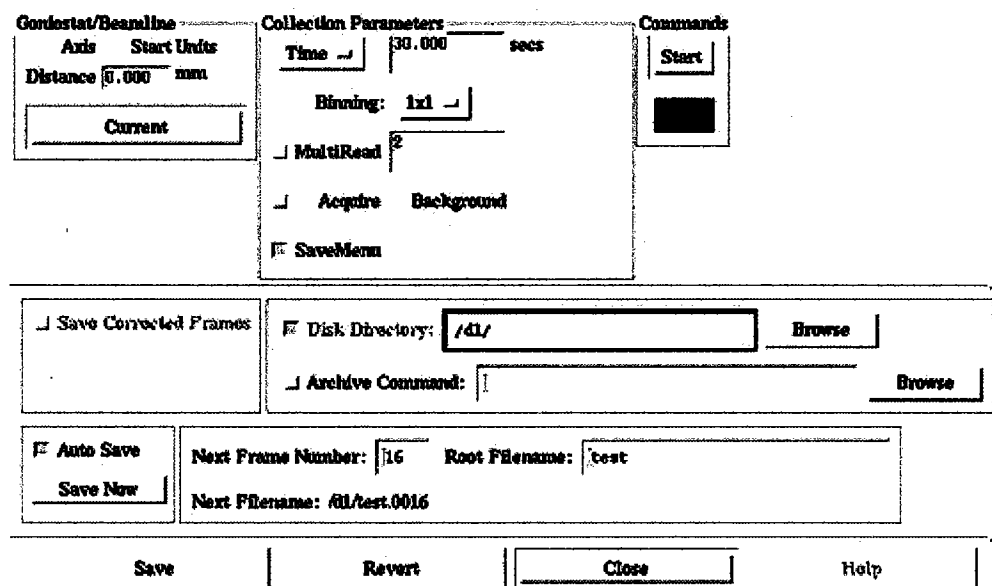

Figure 2 - Acquire Single Frame dialog
The Acquire Single Frame dialog box will appear, as shown in Figure 2. An explanation of each part of this dialog can be found below.
- Scan Width checkbox (not shown in Figure 2) is used only if a scannable Phi axis exists and is controlled by the program. Check the box to oscillate and enter the desired scan width (starting at value indicated in the Goniostat/Beamline box).